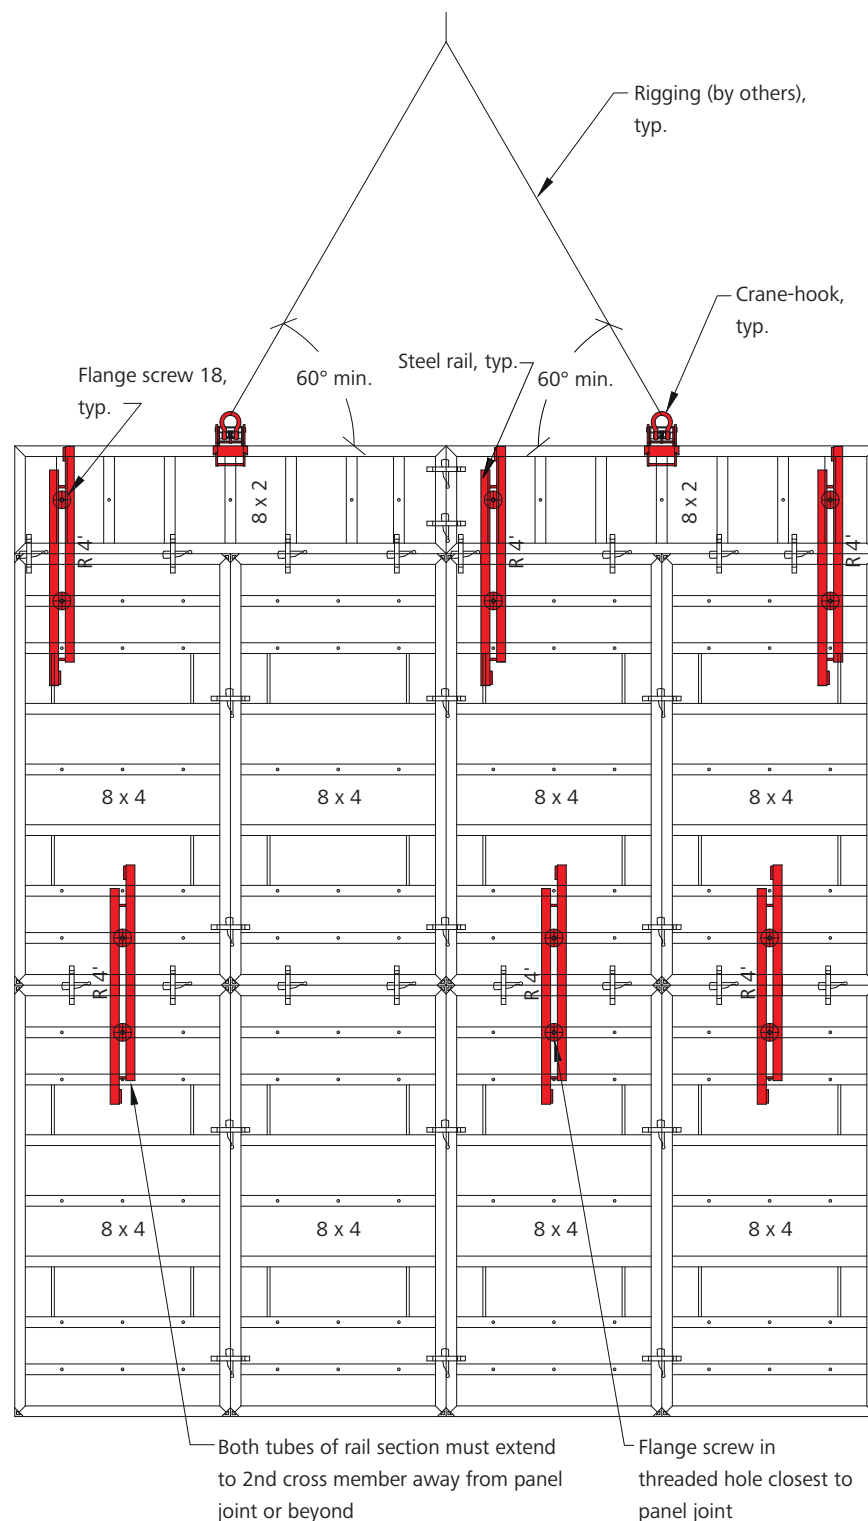
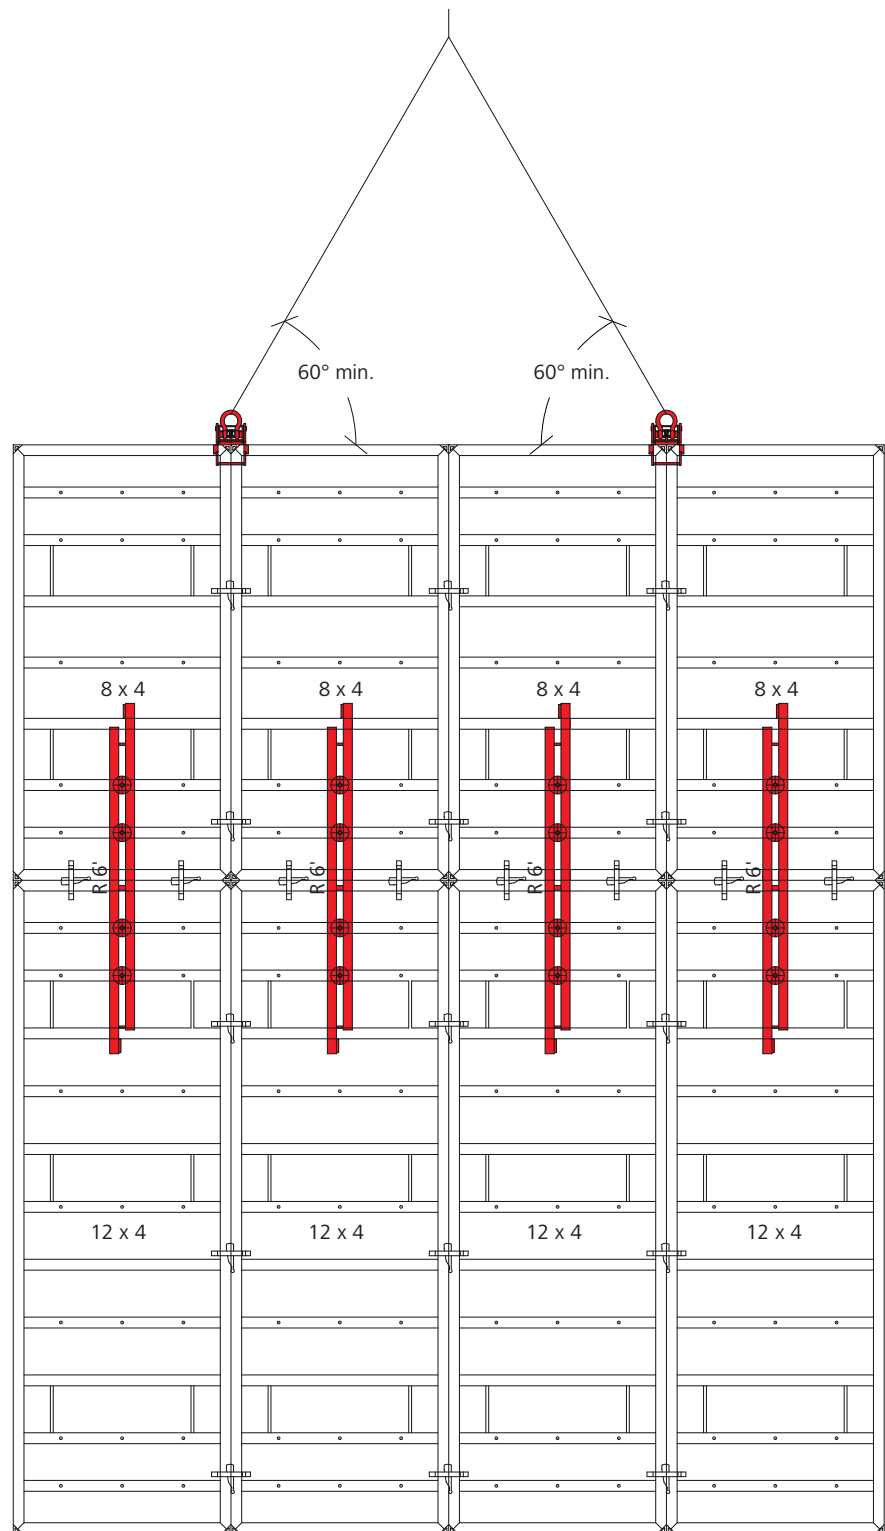

Fig. 55.1 Gang form with horizontal top panels
Fig. 56.1 Typical gang form
Each crane hook must be attached at a panel joint (Fig. 56.1) or above a cross member when the top panels are horizontal (Fig. 55.1). The number and location of crane hooks and the rigging arrangement must be established by the user so that no individual component is overloaded. Spreader beams with load equalizers are recommended for all but simple two-point lifts.
2. Both tubes of rail section must extend to 2nd cross member away from panel joint or beyond (Fig. 55.1). Flange screws must be installed in threaded holes closest to panel joint.
3. 4' long rails with (1) flange screw on each side of the panel joint may be used for gangs up to 18' high when connecting 12' and 8' high panels (Fig. 55.1). Longer rails are required when connecting 4' high and 2' high panels.
4. For gangs > 18' high, 6' long rails with (2) flange screws on each side of the panel joint must be used (Fig. 56.1), except at top horizontal panels $\leq 2'-0"$ wide.